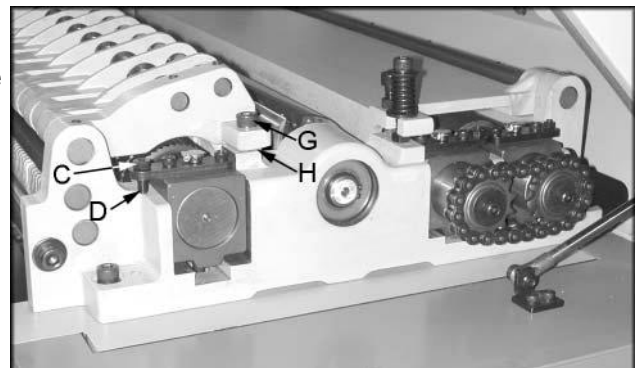
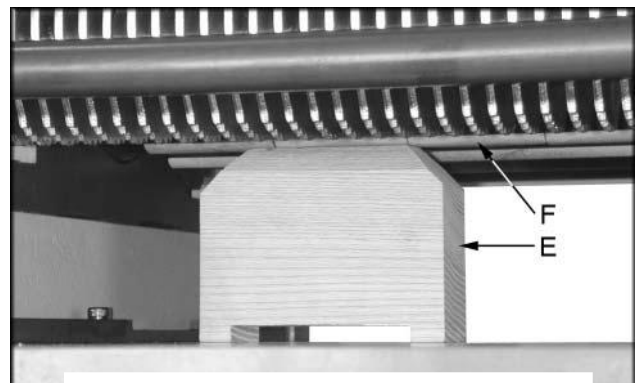

Figure 15
Figure 16
3. Remove feeler gauge and place wood block under the left side of in-feed roller. The top of wood gauge should just contact the in-feed roller. If it doesn't, loosen jam nut (C, Figure 15) and turn the adjusting screw (D, Figure 15) to raise, or lower the in-feed roller until it contacts wood gauge. Repeat for opposite side of the in-feed roller.
3. Remove feeler gauge and place wood gauge (E, Figure 16) under the left side of chipbreaker (F, Figure 16). The top of the wood gauge should just contact the chipbreaker. If it doesn't, remove the socket head cap screw (G, Figure 15) and remove washer (H, Figure 15), or replace with shim of proper thickness to raise, or lower the chipbreaker until it contacts the wood gauge. Repeat for opposite side of the chipbreaker.